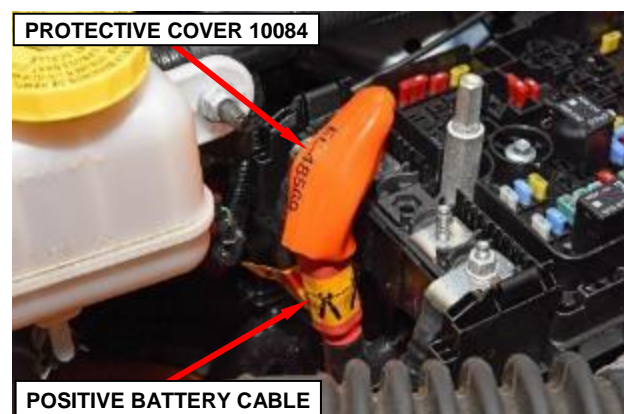

Figure 11 – Cover Cable Terminal
3. Cover the positive battery cable terminal with protective cover 10084 (Figure 11).